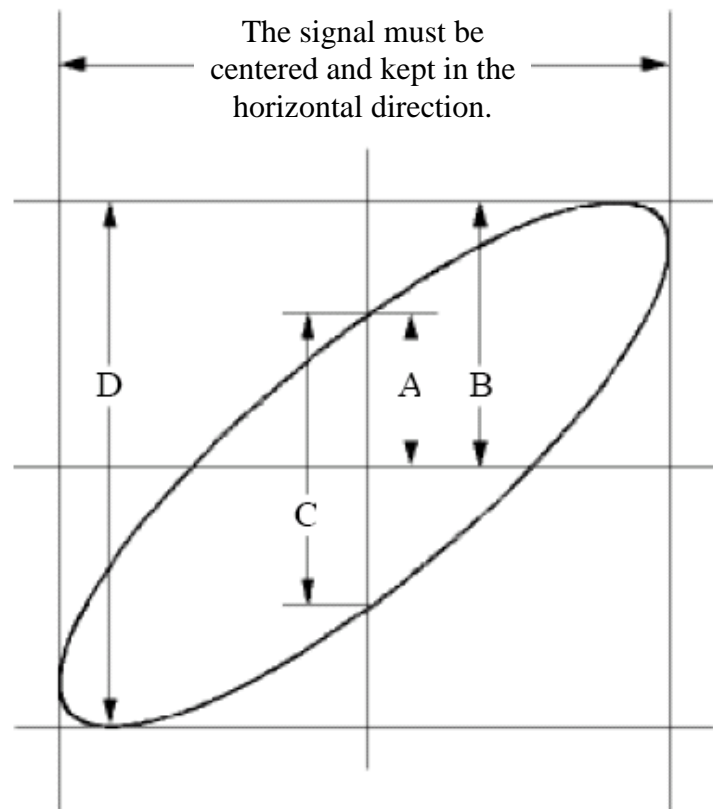

Figure 7-6 Lissajous Graph
- (3) Push the CH1 to CH4 button to turn on CH1 and CH2, turn off CH3 and CH4.
- (4) Push the **Autoset** button, with the oscilloscope turning on the signals of the two channels and displaying them in the screen.
- (5) Push **CH1** button to select CH1, turn the lower knob, and then push **CH2** button to select CH2, turn the lower knob, making the amplitudes of two signals equal in the rough.
- (6) Click  to call up the menu panel. Click the **XY** softkey on panel to switch to the **ON** state. The oscilloscope will display the input and terminal characteristics of the network in the Lissajous graph form.
- (7) Turn the upper and lower knobs, optimizing the waveform.
- (8) With the elliptical oscillogram method adopted, observe and calculate the phase difference (see *Figure 7-6*).